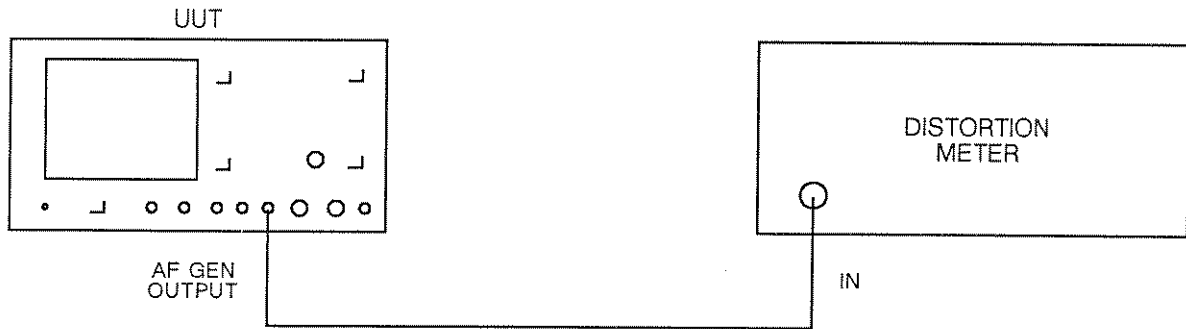

Fig. 5-13 Test equipment connections for AF generator distortion
- (1) Connect the equipment as shown in Fig. 5-13.